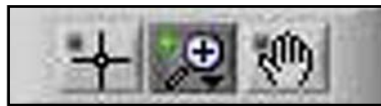

Figure 44: Graph Tools
3. There is a series of Graph Tools available at the top left of the trend plot area (see *Figure 44* below).